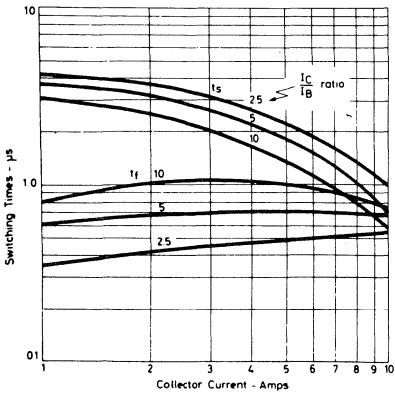

FIGURE 9
5. For typical variation of switching time with collector current, see Figures 9 and 10.